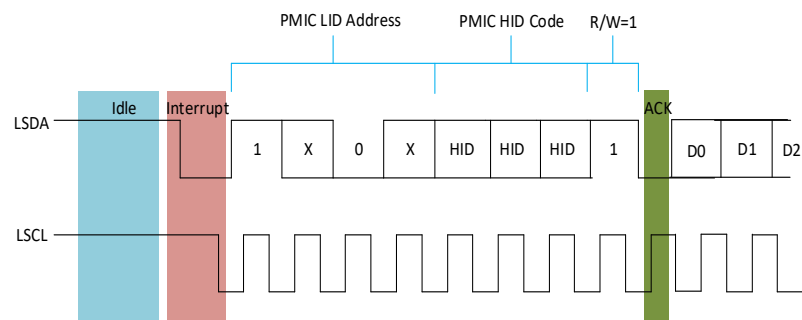

Figure 27 — PMIC Requests Interrupt, Host ACK followed by PMIC Device IBI Payload
- The Host sends ACK on 9th bit to accept the interrupt request. At this point, if the PMIC device confirms that it has won the arbitration, the PMIC device transmits the IBI payload as shown in Table 61 and Table 62 for PEC disabled and PEC enabled configuration respectively. See Figure 27. Figure 27 just shows only first two data bits of the MDB byte to illustrate the timing. The interrupt payload contains MDB followed by Table 113, Register 0x08, Table 114, Register 0x09, Table 115, Register 0x0A, Table 116, Register 0x0B, Table 157, Register 0x33, Table 175, Register 0x108 and Table 176, Register 0x109 bytes. The host then issues the STOP command. Note the timing waveform in Figure 27. The host then accepts the IBI payload if it sends an ACK on 9th bit to accept the interrupt request. The host can interrupt the IBI payload at T bit. If host stops the IBI payload at T bit in the middle of payload, the PMIC retains the IBI status flag ([Table 115, Register 0x0A \[1\]](#)) and Pending Interrupt Bits [3:0] internally and waits for the next opportunity to request an interrupt. If the PMIC device successfully transmits the entire IBI payload, it then clears IBI status flag ([Table 115, Register 0x0A \[1\] = '0'](#)) and Pending Interrupt Bits [3:0] = '0000' on its own and does not request for an IBI again unless there is another different event occurs; for another same event, the device does not request for an IBI.